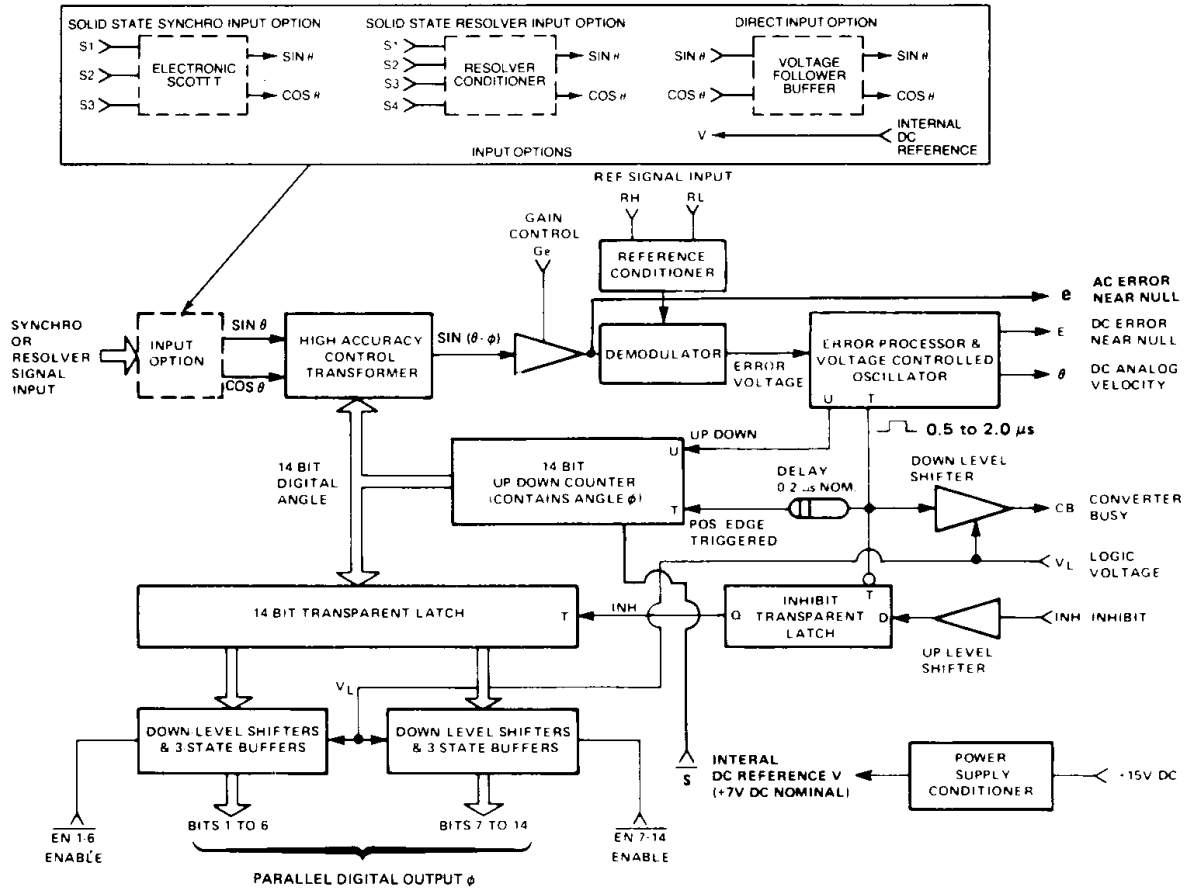

FIGURE 1. HSDC-8915 SERIES BLOCK DIAGRAM
The circuit shown in the HSDC-8915 block diagram, Figure 1, consists of three main parts: the signal input option; a feedback loop whose elements are the control transformer, demodulator, error processor, and up-down counter; and digital interface circuitry including various latches and buffers.
Logic outputs consist of 14 parallel data bits and a Converter Busy (CB). All logic outputs are short-circuit proof to ground and to positive voltages as high as V_L . The CB output is a positive 0.5–2.0 μ s pulse, and data changes about 0.2 μ s after the leading edge of the pulse because of an internal delay (see Figure 1). Data is valid 0.5 μ s after the leading edge of a CB. If the converter is operated with fewer than 14 bits, the unused LSB bits should be left unconnected.
The Inhibit (INH) logic input locks the 14 bit transparent latch so that the bits will remain stable while data is being transferred (see Figure 1). The output is stable 0.5 μ s after the Inhibit is driven to logic 0. A logic 0 at the T input locks the 14 bit latch, and a logic 1 allows the bits to change. The purpose of the INH transparent latch is to prevent the transmission of invalid data when there is an overlap between the CB and INH. While the counter is not being updated the CB is at logic 0 and the INH latch is transparent. When the CB goes to logic 1 the INH latch is locked. If a CB occurs after an INH has been applied, the 14 bit latch will remain locked and its data cannot change until the CB returns to logic 0. If an INH is applied during a CB pulse, the 14 bit latch will not lock until the CB pulse is over. The purpose of the 0.2 μ s delay is to prevent a race condition between the CB and the INH in which the up-down counter begins to change just as an INH is applied.